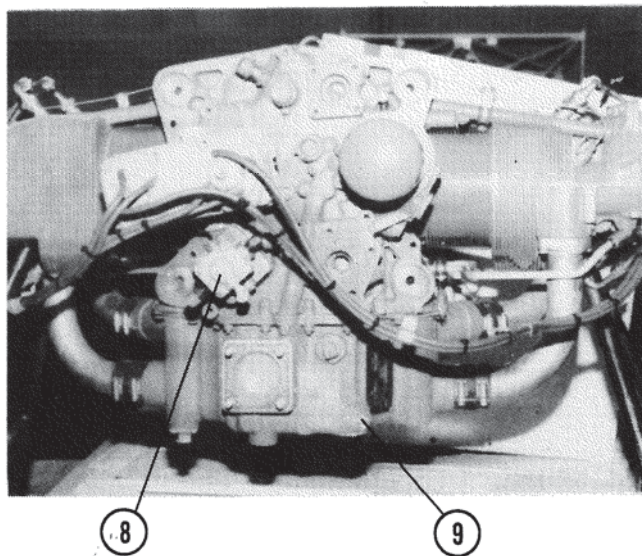

Figure 13-1. Engine Accessory Section
B. Preparation for Engine Removal for Replacement or Overhaul (See Figure 13-1)
(3) Engine Preparation Prior to Installation
- (a) Check mounting points on rear and case of new or rebuilt engine; hole on right upper rear case flange must be drilled and tapped for turbo mount bolt (Ref. 7, Fig. 13-1). Check bottom aft lower right sump for flatness and turbo mount clearance to drain boss radius.
- (b) Transfer restricted oil pressure fitting (P/N ECD110-11) (Fig 13-1, Ref. 1) (see also SDB 0123).
- (c) Transfer restricted oil feed fitting to turbo (Ref. 2, Fig 13-1).
- (d) Transfer oil return line fitting from scavenge pump (Ref. 8, Fig. 13-1).
- (e) Transfer oil inlet and outlet fittings (Ref. 6, Fig 13-1).
- (f) Check four cast holes (Ref. 5, Fig. 13-1) in accessory housing for break-through. If they show evidence of breaking through the case, the holes will have to be drilled and tapped to seal them or the accessory housing will have to be replaced.
- (g) Transfer case plug (Ref. 4, Fig. 13-1) to upper port and install oil temperature pick-up in lower port.